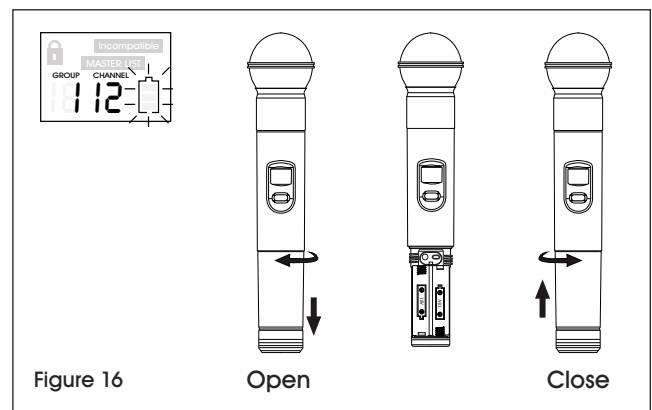

Figure 16
- When the power indication symbol on the display screen is flashing (See Figure 16), the batteries should be replaced immediately.